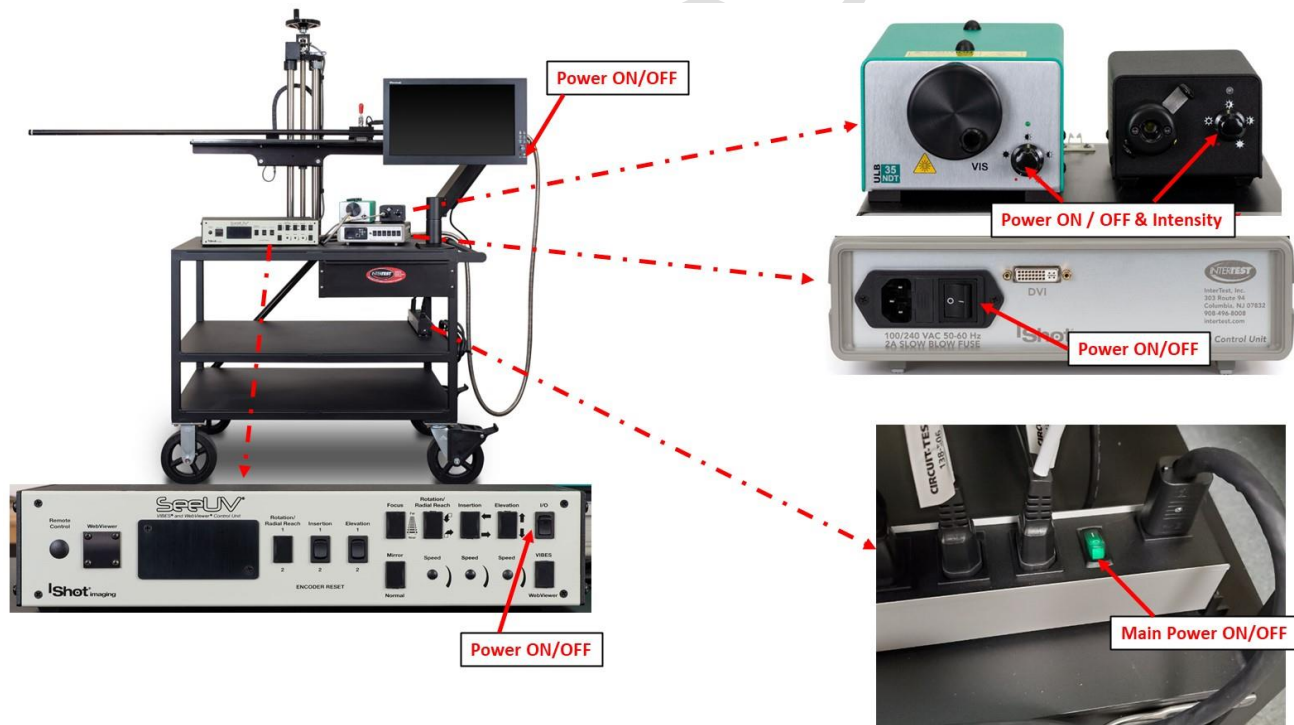

Figure 12 Power ON/OFF
- Make sure Main Power is turned OFF See Figure 12
- Turn on Power on each Unit then Turn On Main Power Strip Per Figure 12